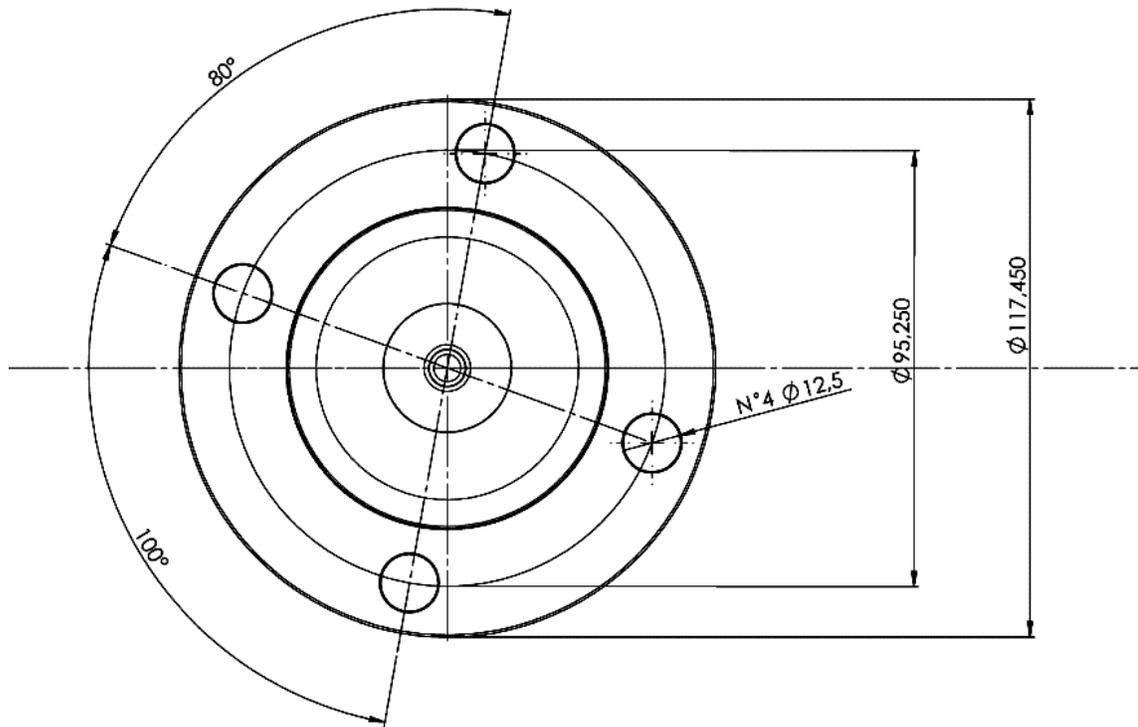

Figure 7: PTO mounting adaptor flange for Spicer 1350/1410 series, p/n A9472600317.
- Spicer 1310 Flange: A9472600417 (See Figure 7 for the dimensions)